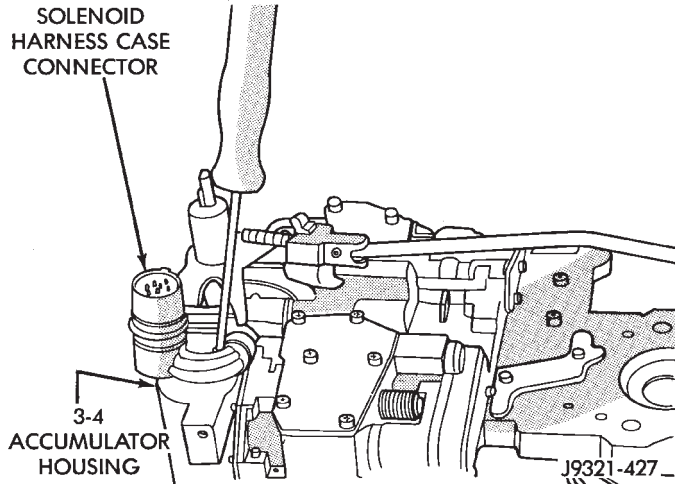

Fig. 48 Solenoid Harness Case Connector Shoulder Bolt
- (1) Remove fluid filter.
- (2) Disconnect wires from governor pressure sensor and solenoid.
- (3) Remove screws attaching governor body and retainer plate to transfer plate.
- (4) Remove retainer plate, governor body and gasket from transfer plate.
- (5) Disconnect wires from governor pressure sensor, if not done previously.
- (6) Remove governor pressure sensor from governor body. Sensor is retained in body with M-shaped spring clip. Remove clip with small pointed tool and slide sensor out of body.
- (7) Remove governor pressure solenoid by pulling it straight out of bore in governor body. Remove and discard solenoid O-rings if worn, cut, or torn.
- (8) Remove small shoulder bolt that secures solenoid harness case connector to 3-4 accumulator housing (Fig. 48). **Retain shoulder bolt. Either tape it to harness or thread it back into accumulator housing after connector removal.**